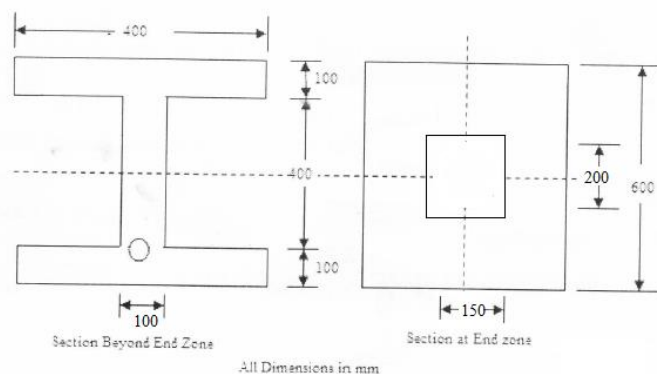

Figure 3
12. Design the bearing plate and the end zone reinforcement for the following bonded post-tensioned beam shown in figure 3. The strength of concrete at transfer (f_{ci}) is 50N/mm^2 . A prestressing force of 1055kN is applied by a single tendon symmetrically placed over a mild steel anchor of size $150\text{mm} \times 200\text{mm}$. Permissible bending stress for the bearing plate is 165N/mm^2 . There is no eccentricity of the tendon at the ends. Use Fe250 grade steel for reinforcement.